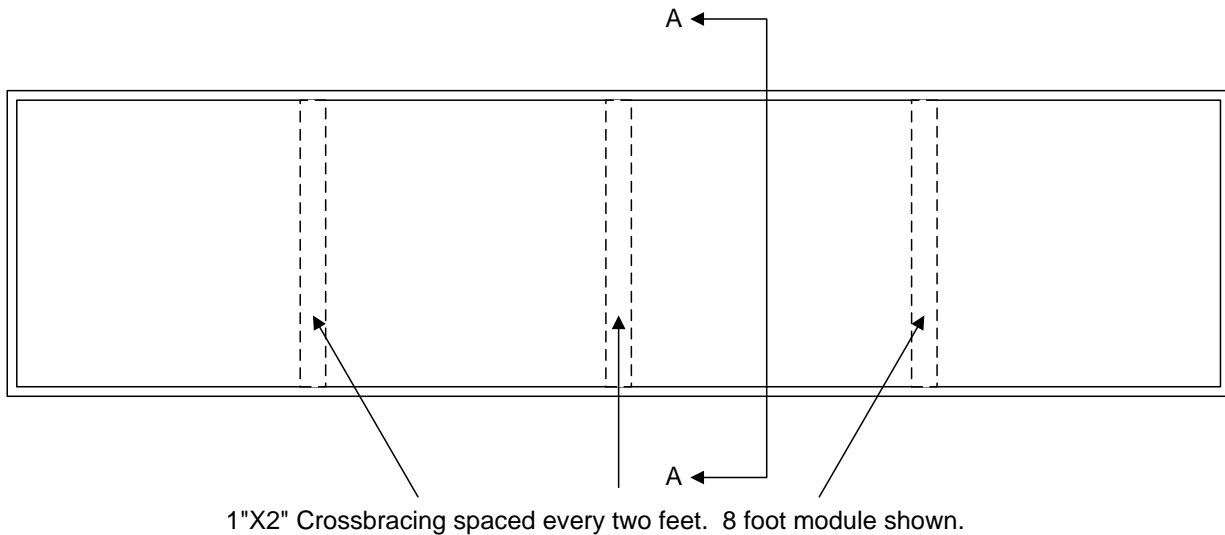

FIG 2. - MODULE CONSTRUCTION USING 2" FOAM
4.1.6.1 Sub-roadbed shall consist of ½" plywood or 2" dense foam insulation to prevent warping. If 2" foam is used, it must be braced as shown in Figure 2.
5.2 Modules shall be wired according to Figure 2. All electrical connections shall be soldered and insulated with heat-shrink tubing or tape. Suitcase connectors are recommended for connections between buss and feeder wires. No section of mainlines or passing track shall depend on power being fed through bridge tracks.